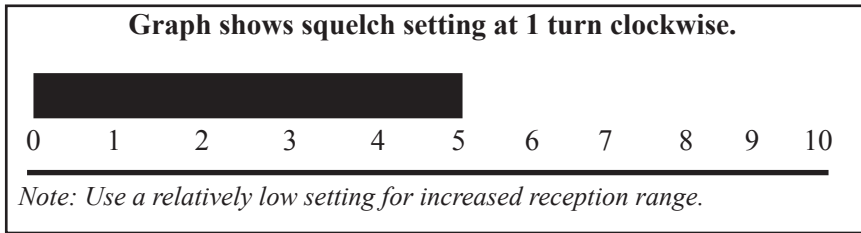
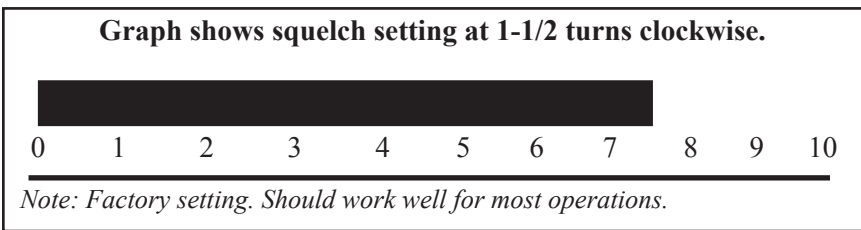

Figure 11
Figure 12
The squelch control (labeled “SQ” in Figure 7) allows the squelch level to be varied. When the squelch is on, the control acts like the squelch control on a CB radio. The squelch adjustment control is a two-turn type. **Clockwise** turns from the beginning point (full counterclockwise rotation) make the unit apply **more** squelch. The more you apply squelch, the quieter the unit becomes; however, the range is reduced (Figures 11–13). The factory-preset “ON” adjustment is set between 1 and 1-1/2 turns clockwise (or 1/2 turn counterclockwise from full clockwise - Figure 12). If you turn the control two turns clockwise, you will decrease your receive range dramatically, so the divers will have to stay within a few feet of each other. If the mission requires long-range communication, the squelch should remain off. Squelch is turned off by a full counterclockwise rotation (where the squelch control cannot be turned any further). **CAUTION: Do not force the control past the stop point, or damage will occur!**
*Note for Figures 11–13:* The graphs show the variance in squelch sensitivity with turns of the squelch control. A fully counterclockwise rotation is indicated by 0, and a fully clockwise (2 turns) rotation by 10.
Remember, the more squelch you apply, the less range you can expect. When possible, use the transceiver in the squelch *off* position. Figure 11–13 demonstrate the effect of squelch level adjustment on squelch sensitivity.